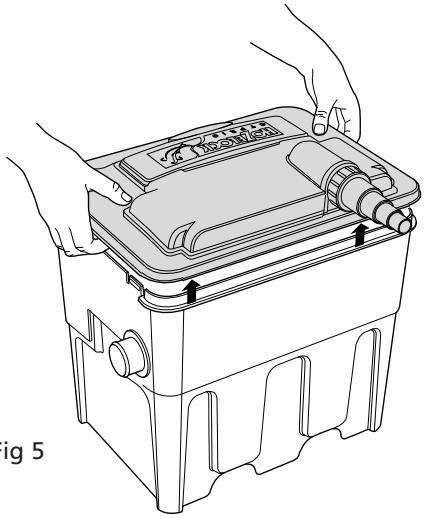

Fig 5
6.2 Switch off the pump supplying water to the filter. Gently remove the lid from the vessel. (See Fig 5)